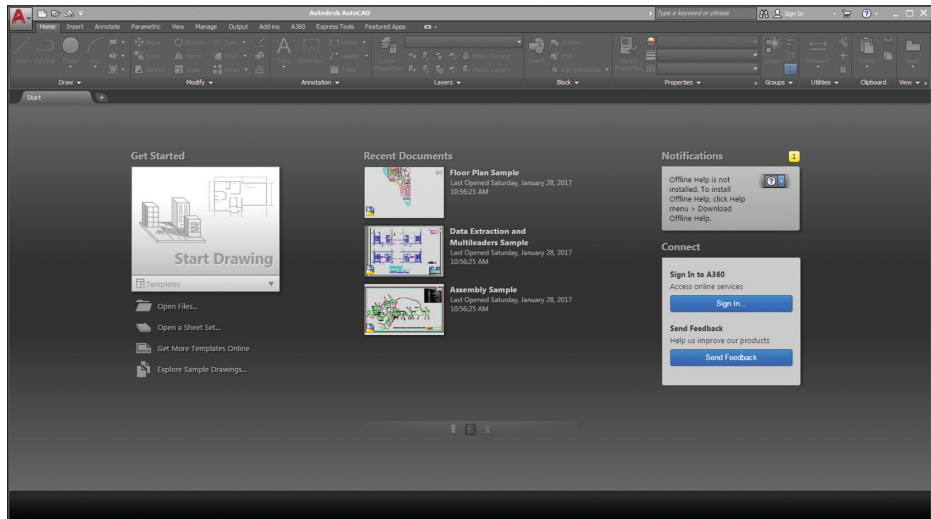

FIGURE 1.1 Clicking Sign In on the AutoCAD Start tab
1. Click the Sign In button in the Connect section of the Start tab (see Figure 1.1).